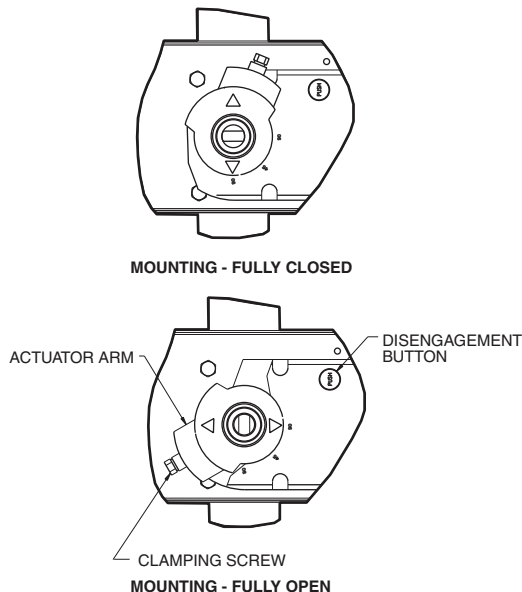

Fig. 53 — Ball Valve Motor
See Fig. 53 for a view of the ball valve motor mounting with a fully open valve. The motor actuator arm should be at a counterclockwise position, with the valve shaft in a parallel position. If not in a parallel position, loosen the clamping screw and push the disengagement button to rotate the actuator arm until it stops. Retighten the clamping screw.
2. With the compressor off, hold down the **Disengagement** button. See Fig. 53.